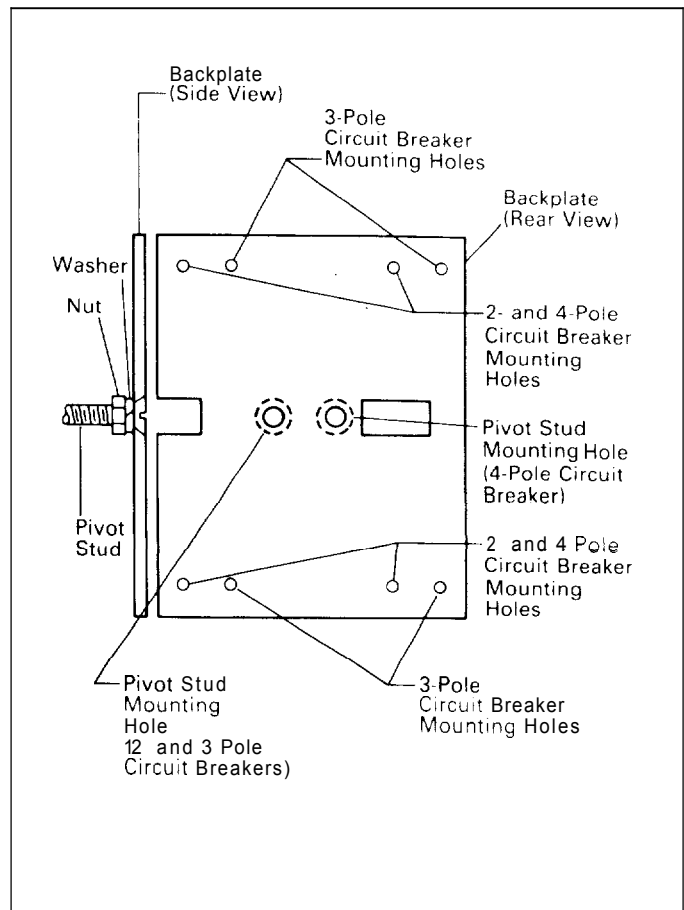

Fig. 2-4. Pivot Stud and Backplate Mounting Holes
- 2-2. Select pivot stud mounting hole in walking beam backplate. (See Fig. 2-4.) Put stud in hole and secure it with nut and lockwasher.
- 2-4. Hold walking beam backplate on mounting panel behind circuit breakers. (See Fig. 2-4 for correct mounting holes.) Secure backplate to mounting panel using the two inner mounting holes in each circuit breaker.